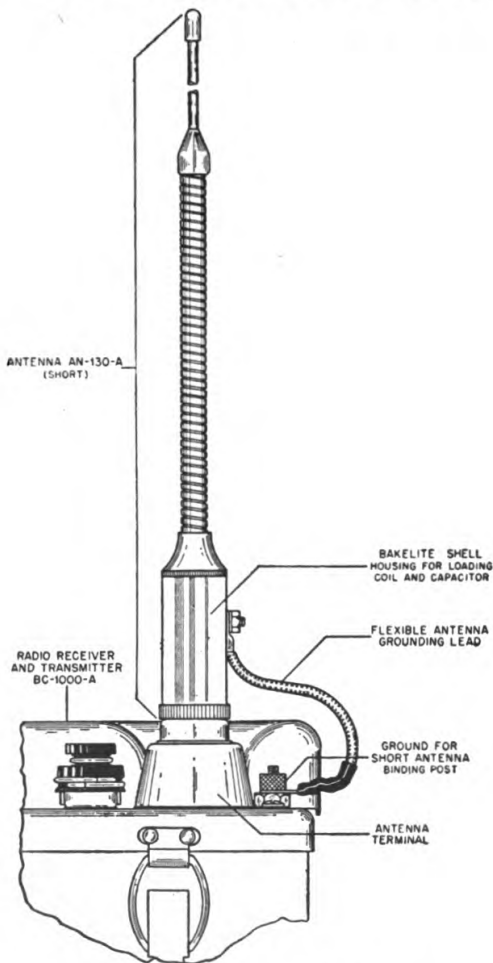

Figure 6. Antenna AN-130-A, Installation Detail.
A bakelite shell at the base of the antenna houses a loading circuit for resonating the short antenna to Radio Receiver and Transmitter BC-1000-A. The flexible lead with spade lug attached to the bakelite shell must be connected to the binding post marked GROUND FOR SHORT ANTENNA (see Figure 6) of Radio Receiver and Transmitter Chassis BC-1000-A to complete the antenna resonating circuit. A threaded stud is provided at the base of the antenna to attach it to the antenna terminal of the set.
(1) *Antenna AN-130-A.* Fit the upper section into the lower. Next, screw the assembled antenna into the antenna terminal of the set. (See Figure 6.) Approximately five turns are required to screw the antenna into the terminal; *Don't force it.* Connect the spade lug of the flexible antenna ground lead to the GROUND FOR SHORT ANTENNA terminal on the set front panel. *This ground connection is essential for proper operation.*